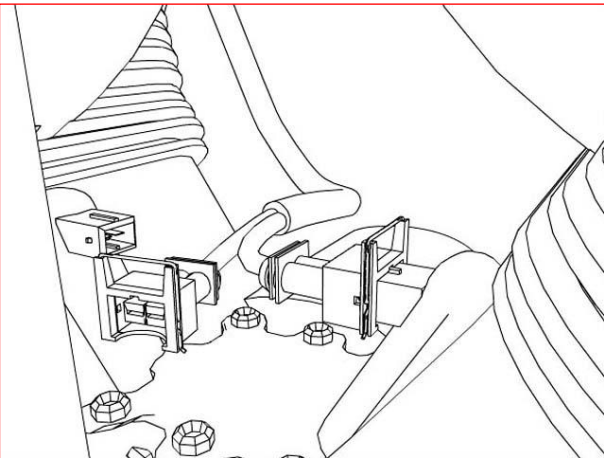

Figure 8
8. **View from right. Depress the locking bails and remove the injector connectors. Rear first, then front. Do not pull the wires. (see figure 8,9)**